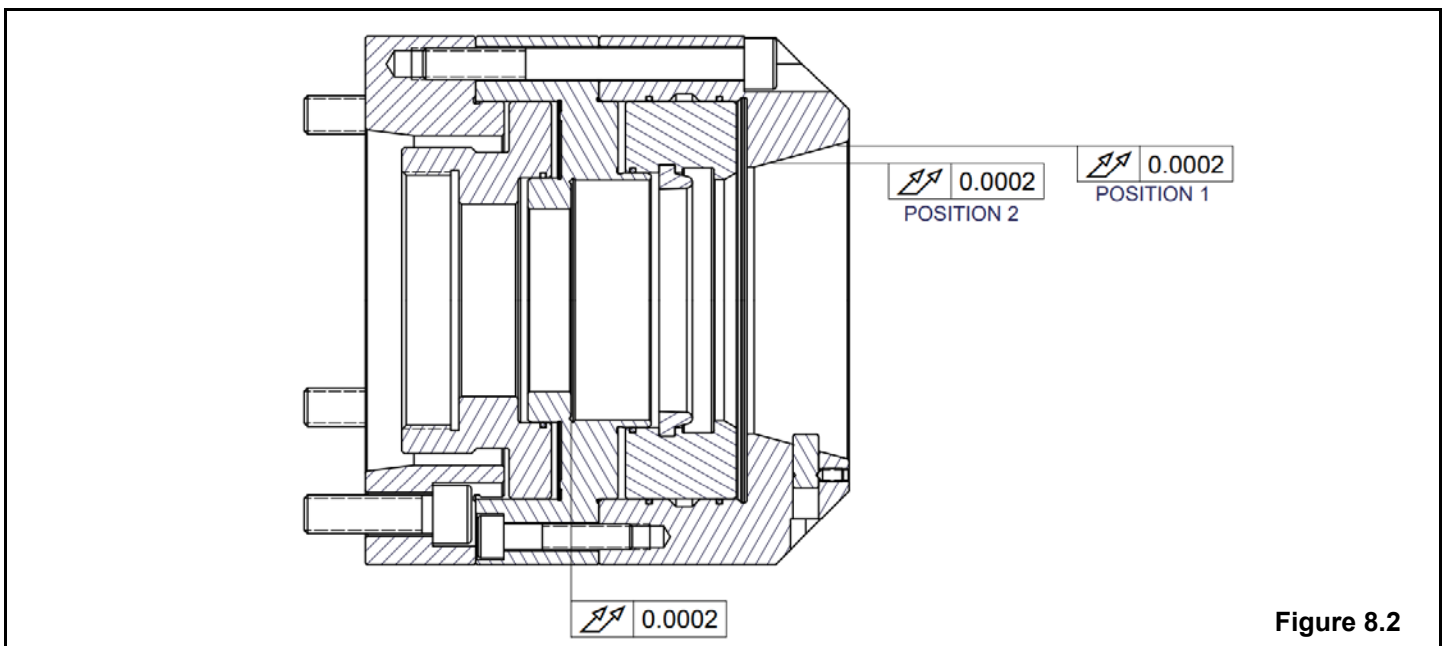
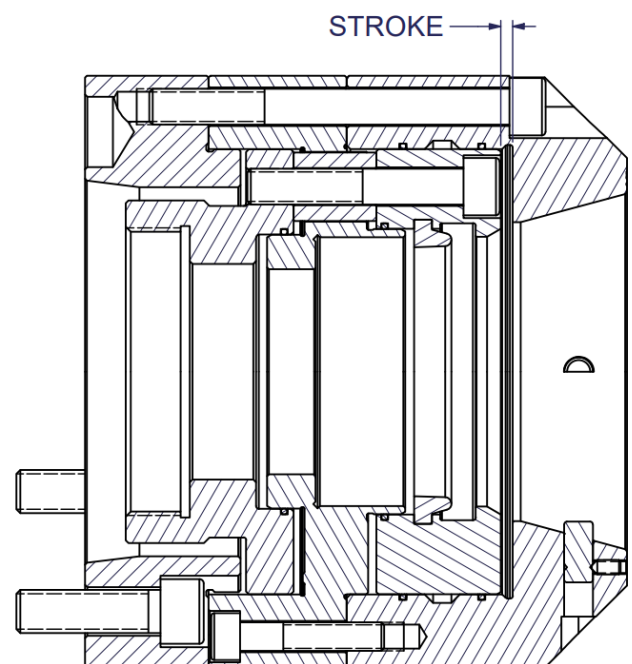

Figure 8.2
Figure 8.3
2. Make certain that the mounting surfaces of the chuck body and adapter plate are clean and free of nicks or burrs that could prevent the proper seating of the chuck body. Also make sure the (4) radial adjusting screws are not protruding into the locating diameter of the chuck body.
6. Indicate the lateral runout of the mounting surface for the stop plate, inside of the chuck, as shown in Figure 8.2. Ensure runout does not exceed .0002" (0.005mm).
7. Indicate the ID runout of the collet taper as shown in position #1 in Figure 8.2. Make adjustments to the (4) radial adjusting screws so that the runout of the collet taper is within .0002" (0.005mm).
8. Before tightening the mounting bolts, measure the runout of the collet taper on position #2 in Figure 8.2. If the chuck body is properly seated on the adapter plate, the runout measured on position #2 should be the same as position #1. If the runout measured in position #2 exceeds the runout of position #1 by more than .0001" (0.0025mm), remove the chuck body from the adapter plate and repeat this mounting procedure.
9. After the runout of the collet taper has been adjusted, tighten the mounting bolts to the torque specifications given in Section 4. Also make sure to tighten all (4) radial adjusting screws.
10. Actuate the draw tube to verify that the chuck is functioning correctly by measuring the stroke of actuator as shown in Figure 8.3.